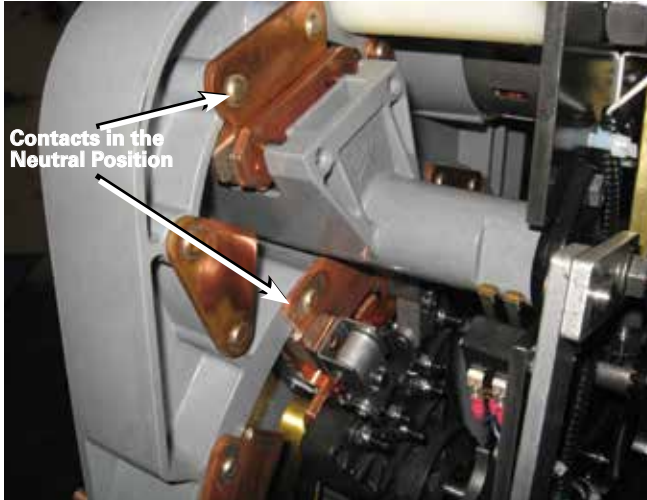

Figure 2. Neutral position.
2. The tap-changer should be in the neutral position before starting the replacement procedure. Refer to Figure 2. If the tap-changer is not in the neutral position, turn the back of the motor shaft using a 3/8" socket on a ratchet until the tap-changer is in the neutral position.